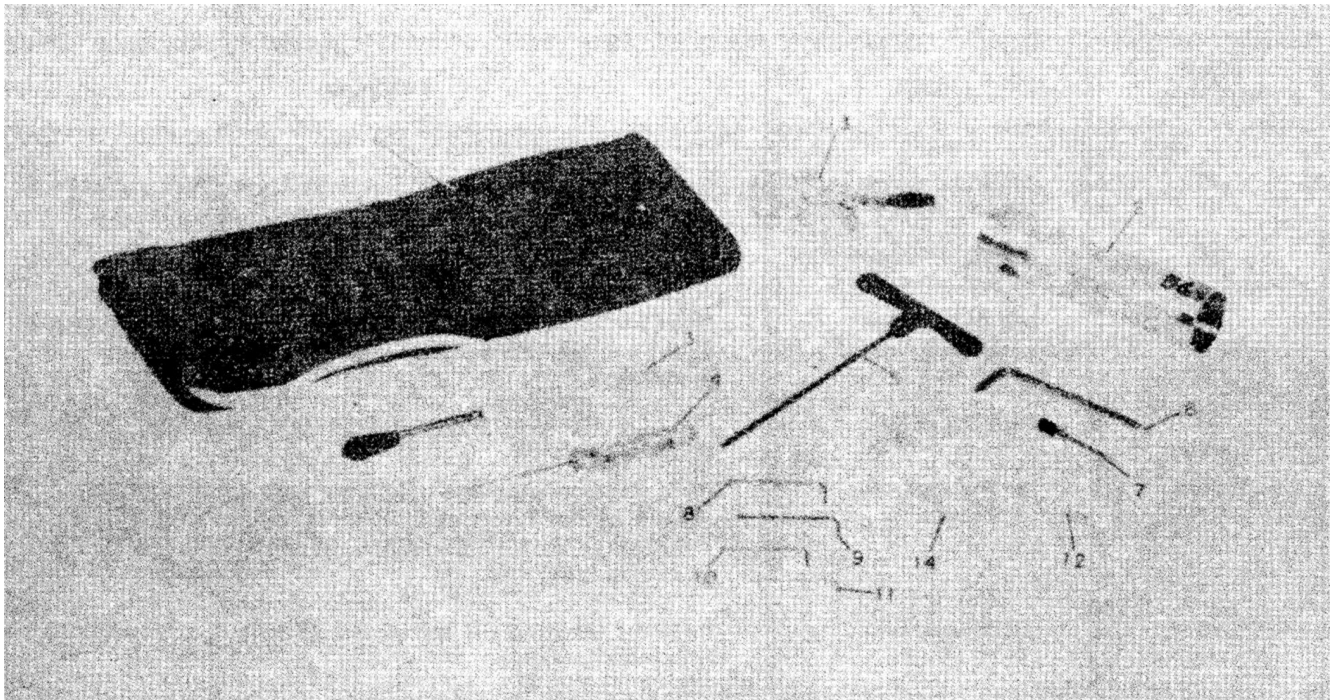

Figure 1-13. Tool Kit
(12) TOOL KIT. - Refer to figure 1-13. The tool kit contains the special tools supplied for adjustment and maintenance of Radio Receiver-Transmitter RT-695/PRC-41. Refer to table 1-5.